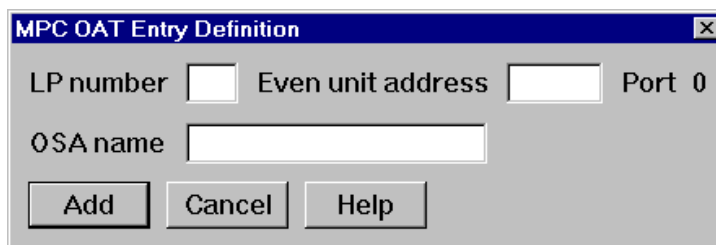

Figure 8-5 MPC OAT entries
9. Specify an MPC OAT entry for this mode as shown in Figure 8-5, and then Press **Add...** to add an OAT port definition.